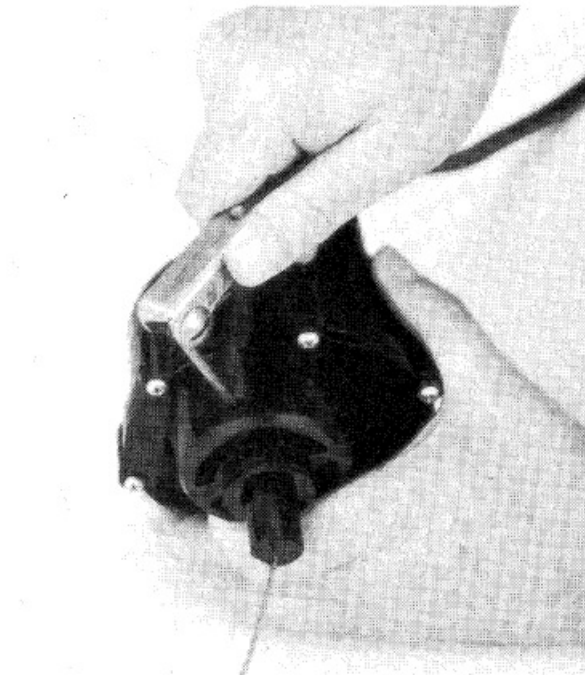

FIG. 8
1. Loosen set screw that holds spring adjusting bushing Fig 8. Set screw is socket head ¼ inch stainless steel.